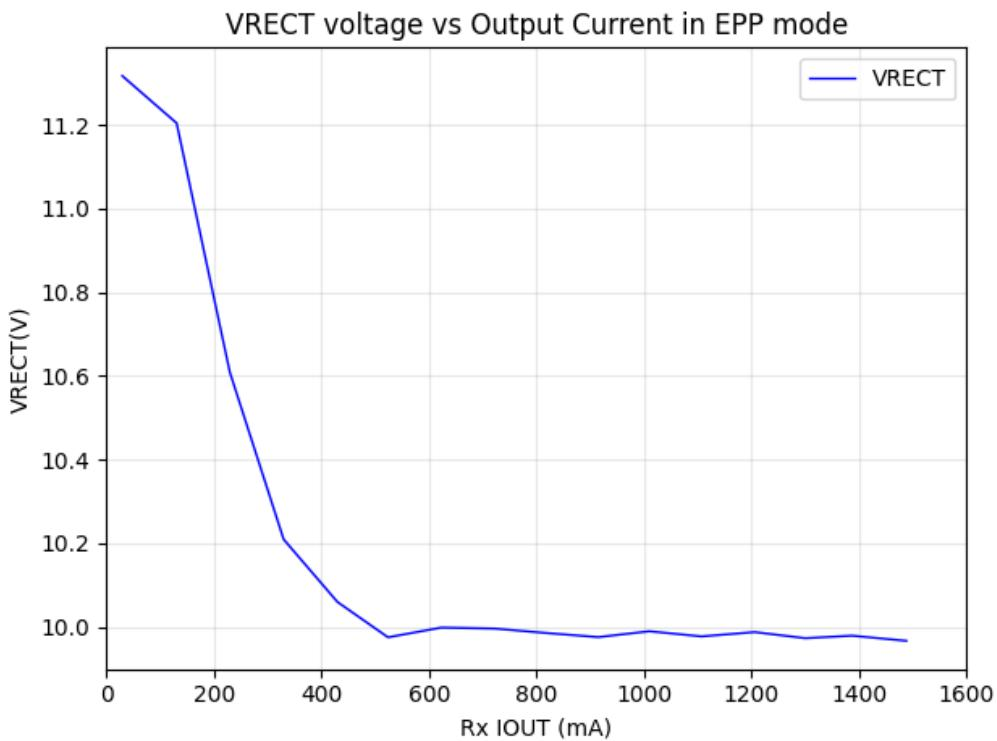
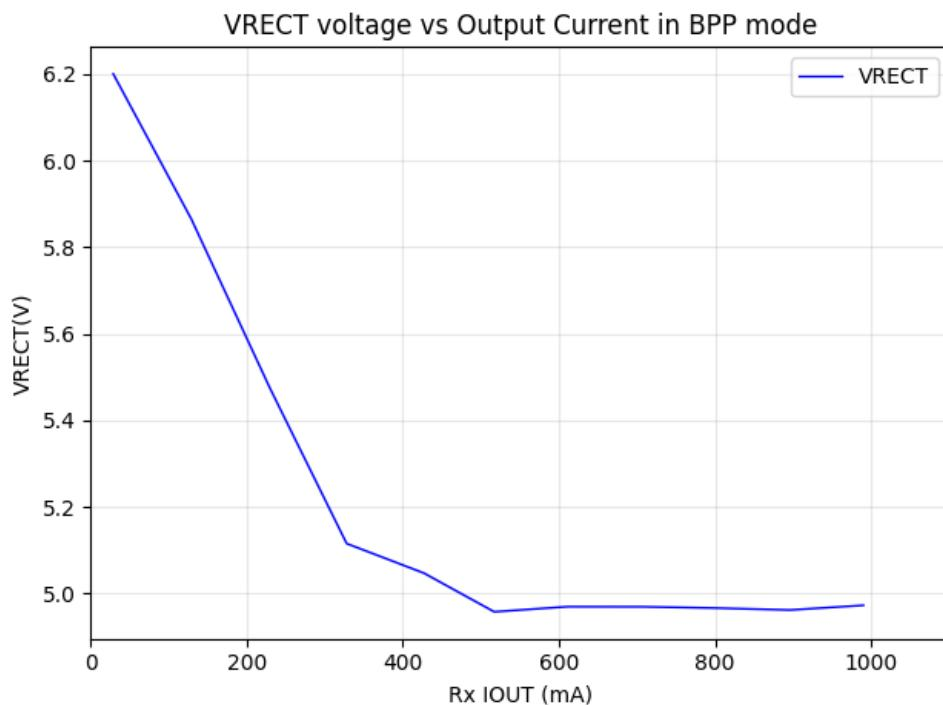

Figure 10. Rx VRECT Target Voltage on P9243-GB Tx (EPP Mode)
Figure 11. Rx Vrect Target Voltage on P9235A-RB Tx (BPP Mode)
GP0 functions as power good indication. Figure 10 and Figure 11 show EPP and BPP mode power good waveform.
3. After loading the file, select Vrect or Vout depending on where your power supply is connected to and press the “Program” button. The EEPROM will be programmed and the GUI will indicate if successful or if there were errors. See Figure 10, which indicates that the programming was successful. If there are any errors, attempt to program again.